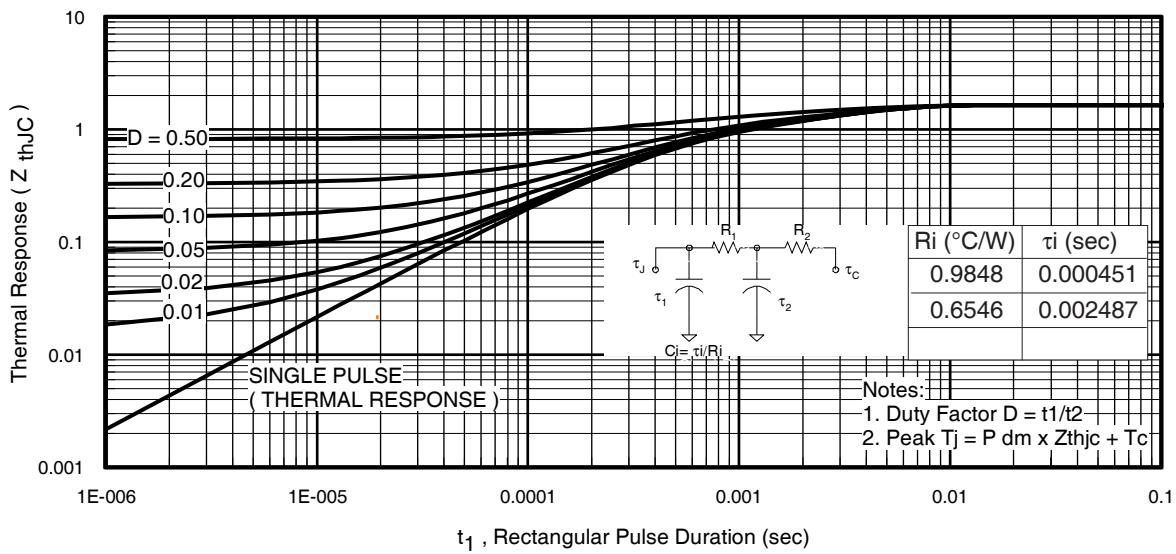
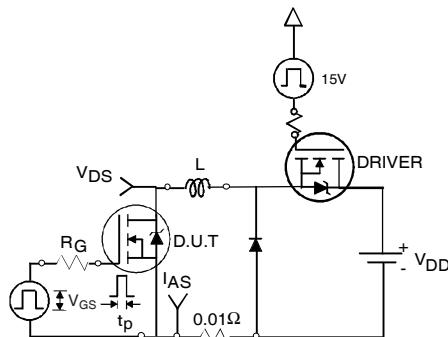

Fig 11. Maximum Effective Transient Thermal Impedance, Junction-to-Case
Fig 12a. Unclamped Inductive Test Circuit
- ① Repetitive rating; pulse width limited by max. junction temperature. (See fig. 11).
- ② Limited by $T_{J\text{max}}$, starting $T_J = 25^\circ\text{C}$, $L = 0.11\text{mH}$, $R_G = 25\Omega$, $I_{AS} = 37\text{A}$, $V_{GS} = 10\text{V}$. Part not recommended for use above this value.
- ③ $I_{SD} \leq 37\text{A}$, $\text{di}/\text{dt} \leq 920\text{A}/\mu\text{s}$, $V_{DD} \leq V_{(\text{BR})\text{DSS}}$, $T_J \leq 175^\circ\text{C}$.
- ④ Pulse width $\leq 1.0\text{ms}$; duty cycle $\leq 2\%$.
- ⑤ $C_{\text{oss eff.}}$ is a fixed capacitance that gives the same charging time as C_{oss} while V_{DS} is rising from 0 to 80% V_{DSS} .
- ⑥ Limited by $T_{J\text{max}}$, see Fig.12a, 12b, 15, 16 for typical repetitive avalanche performance.
- ⑦ This value determined from sample failure population, starting $T_J = 25^\circ\text{C}$, $L = 0.11\text{mH}$, $R_G = 25\Omega$, $I_{AS} = 37\text{A}$, $V_{GS} = 10\text{V}$.
- ⑧ This is applied to D²Pak, when mounted on 1" square PCB (FR-4 or G-10 Material). For recommended footprint and soldering techniques refer to application note #AN-994.
- ⑨ R_θ is rated at T_J of approximately 90°C .
3. Equation below based on circuit and waveforms shown in Figures 12a, 12b.
- $Z_{thJC}(D, t_{av})$ = Transient thermal resistance, see figure 11)